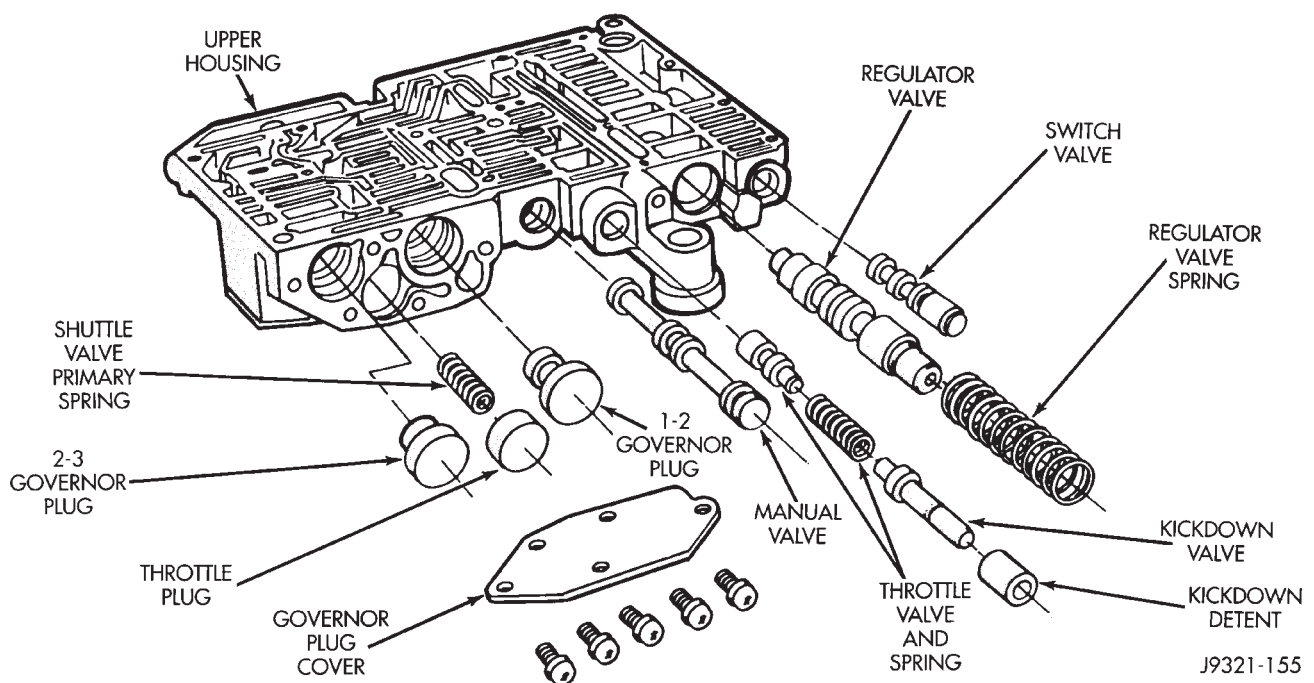

Fig. 61 Upper Housing Control Valve Locations
(21) Turn upper housing over and remove switch valve, regulator valve and spring, and manual valve (Fig. 61).
(22) Remove kickdown detent, kickdown valve, and throttle valve and spring (Fig. 61).
- (5) Remove boost valve retainer, spring and valve if not previously removed.
- (6) Remove throttle plug and 1-2 and 2-3 governor plugs (Fig. 61).